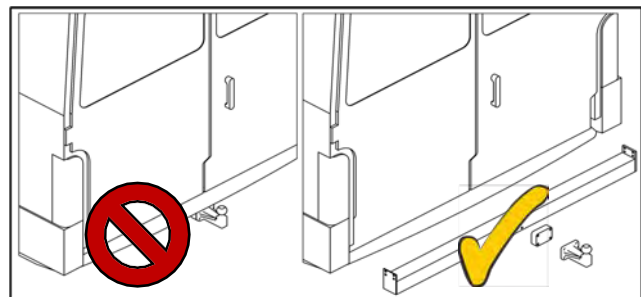

Figure 10
- If a trailer hitch or step is mounted on the vehicle, remove it (see Fig. 10).